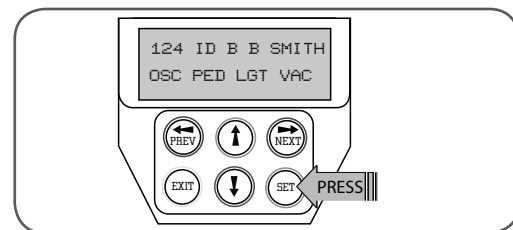

fig 43
5. Press SET to record changes (**Fig. 43**).